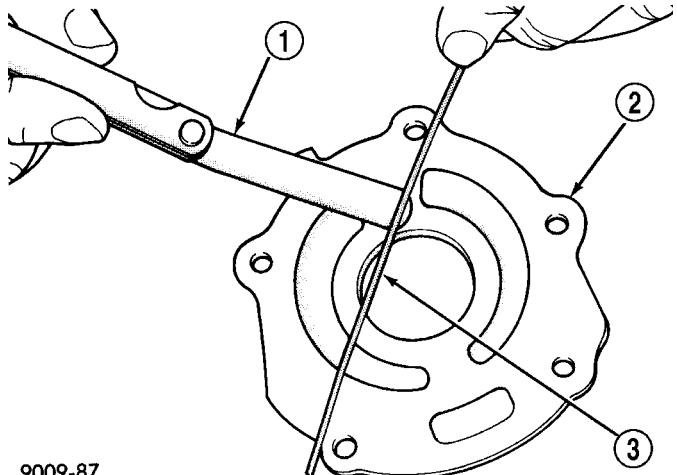

Fig. 107 Checking Oil Pump Cover Flatness
(1) Inspect mating surface of the chain case cover. Surface should be smooth. Replace cover if scratched or grooved.
(2) Lay a straightedge across the pump cover surface (Fig. 107). If a 0.025 mm (0.001 in.) feeler gauge can be inserted between cover and straight edge, cover should be replaced.